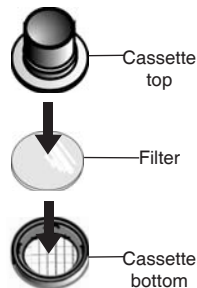

Figure 3.
1. Use gentle pressure to separate the two halves of the cassette (Figure 3).
2. Use gentle pressure to separate the two halves of the stainless steel cassette (Figure 3 on page 3).